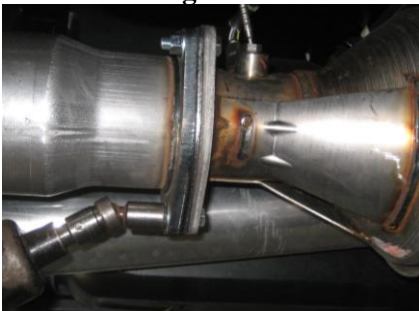

Figure 4
2. Mate the **Extension Pipe** flange to the stock exhaust flange with the **Gasket** between them and fasten the flanges together with the hardware provided. **Refer to Figure 4.**